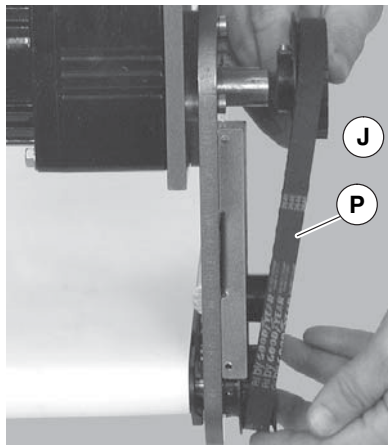

Figure 18
If drive pulley (Figure 18, item J) was replaced, wrap timing belt around drive pulley and complete step 3.
6. Loosen drive pulley set screws (Figure 18, item Z). Remove drive pulley (J) and timing belt (P).
If drive pulley (Figure 18, item J) was removed, wrap timing belt around drive pulley and complete step 11.